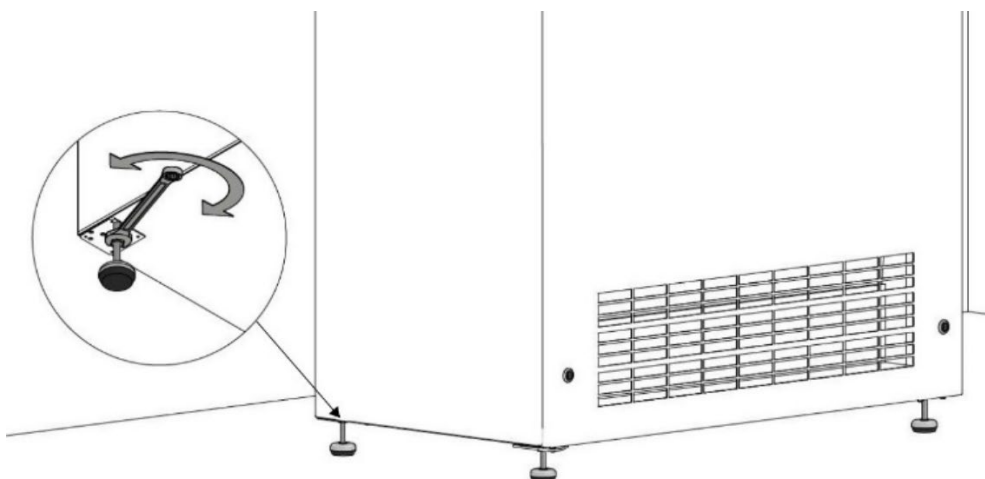

Figure 27: Adjust the feet to level the unit
3. Adjust the feet to make the unit level, see Figure 27 below.